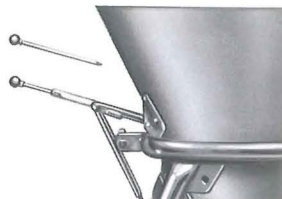

Fig. 6
Also headlands and field-sides can be broadcasted precisely by "one-side spreading". For this, disconnect the combi-lever by pulling out the adjustable extension (Fig. 6) until it can be moved freely. Now both shutters can be controlled independently to your convenience.
6. When spreading damp and not well-stored fertilizer it is advisable to remove all excess fertilizer which is clinging to the bottom of the hopper, to the deflector plates, to the spreading blades and the hopper opening, by using the extension of the side lever (Fig. 6).